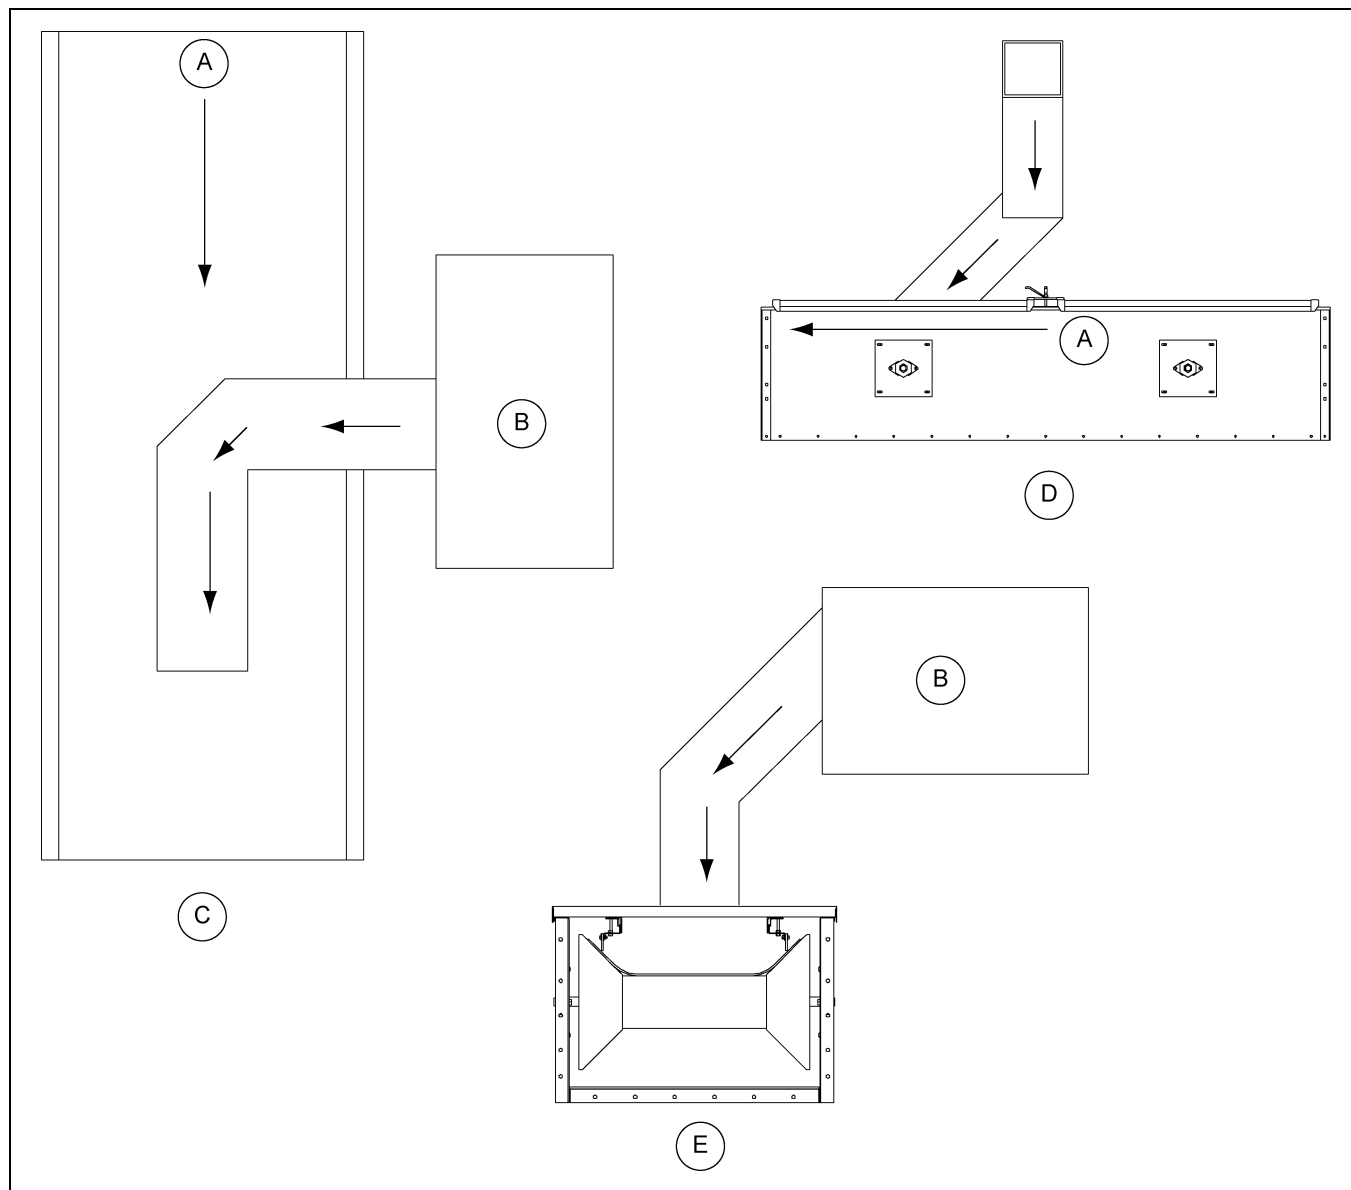

Figure 7D
1. Grain should come out from storage and make a 90° turn by use of baffles and load straight into the conveyor at approximately a 45° angle. (See Figure 7D.)